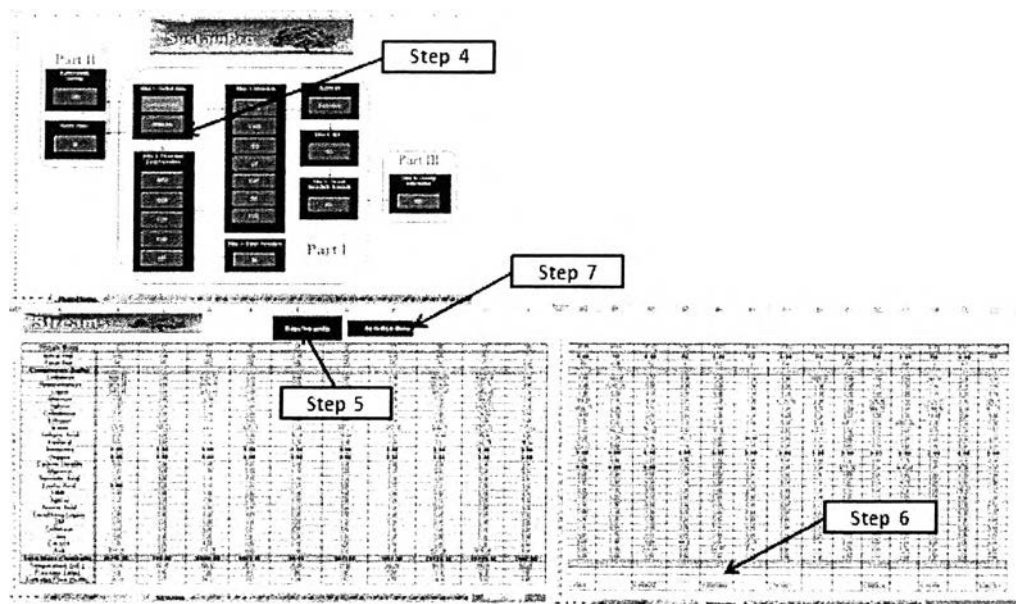

Figure B.15: Steps to perform sustainability analysis (Continued)
Step 4: Click “Streams” button (Figure B.15).